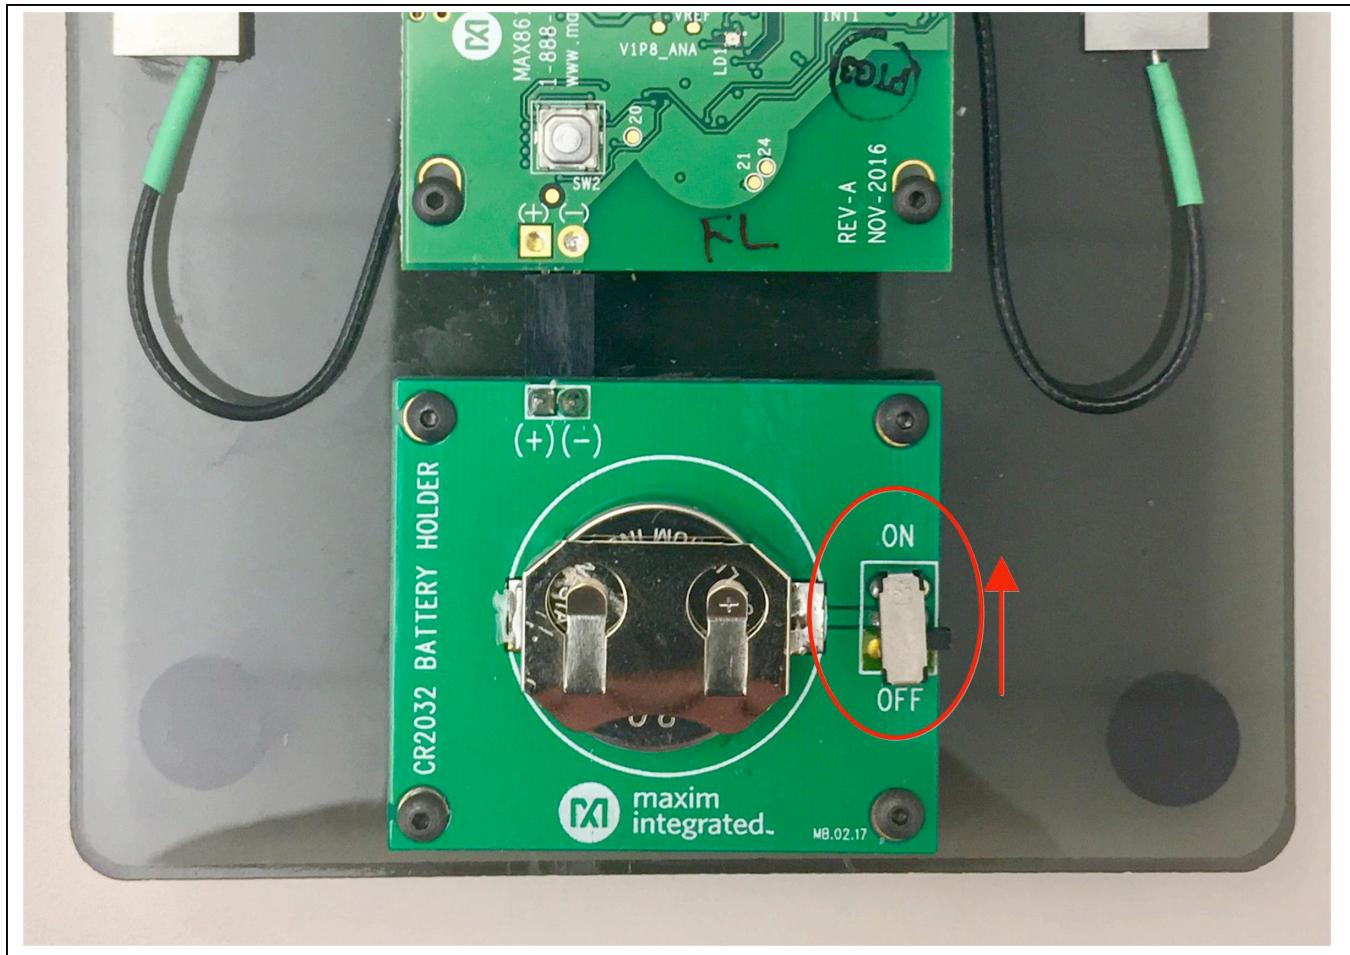

Figure 2. Power Switch
- 1) Turning on the device. Please refer to Figure 2 for details.